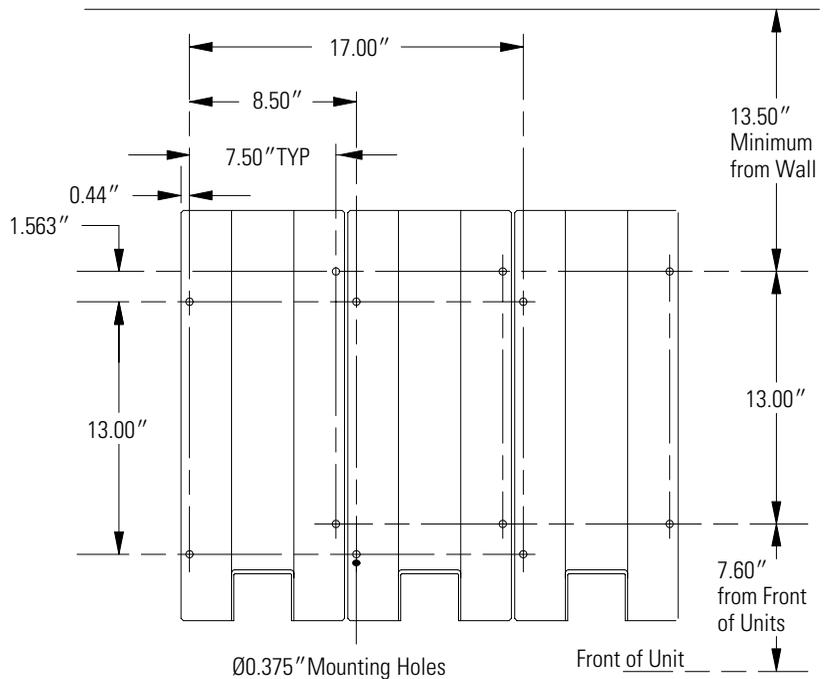

Figure 14. Seismic Installation Mounting Pattern
3. A seismic installation of the EBCU requires that the mounting plates be bolted to the floor. See Figure 14 for a detailed drill and mounting pattern.